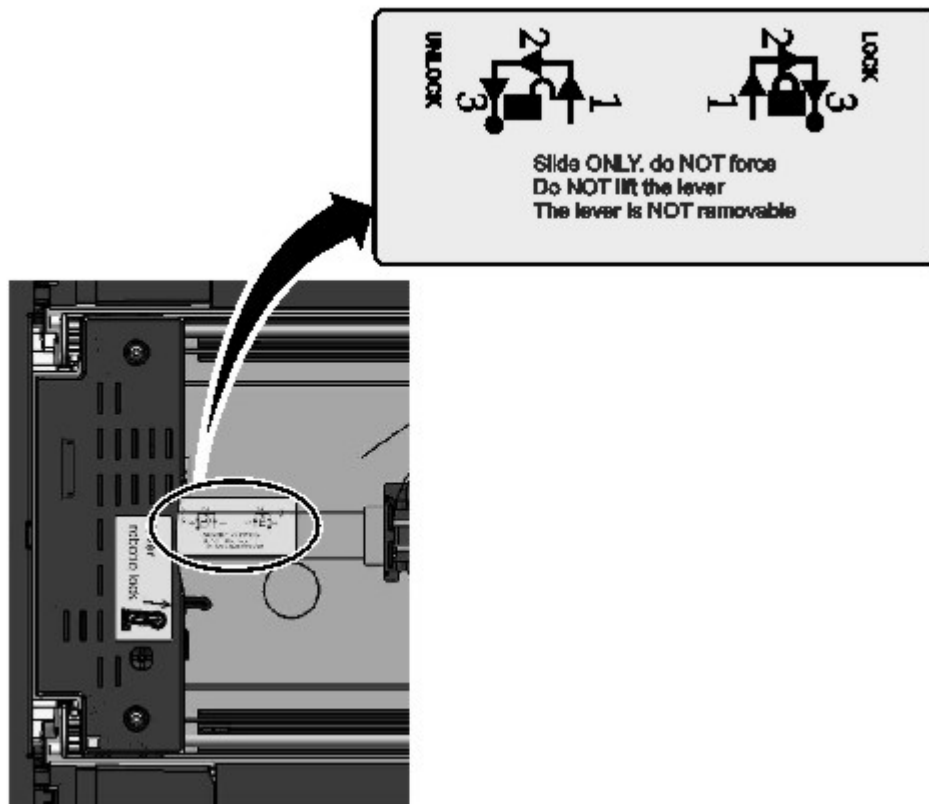

Figure 72. Unlocking the robot
10. Unlock the lever and set aside the accessor. See Figure 72 on page 155.